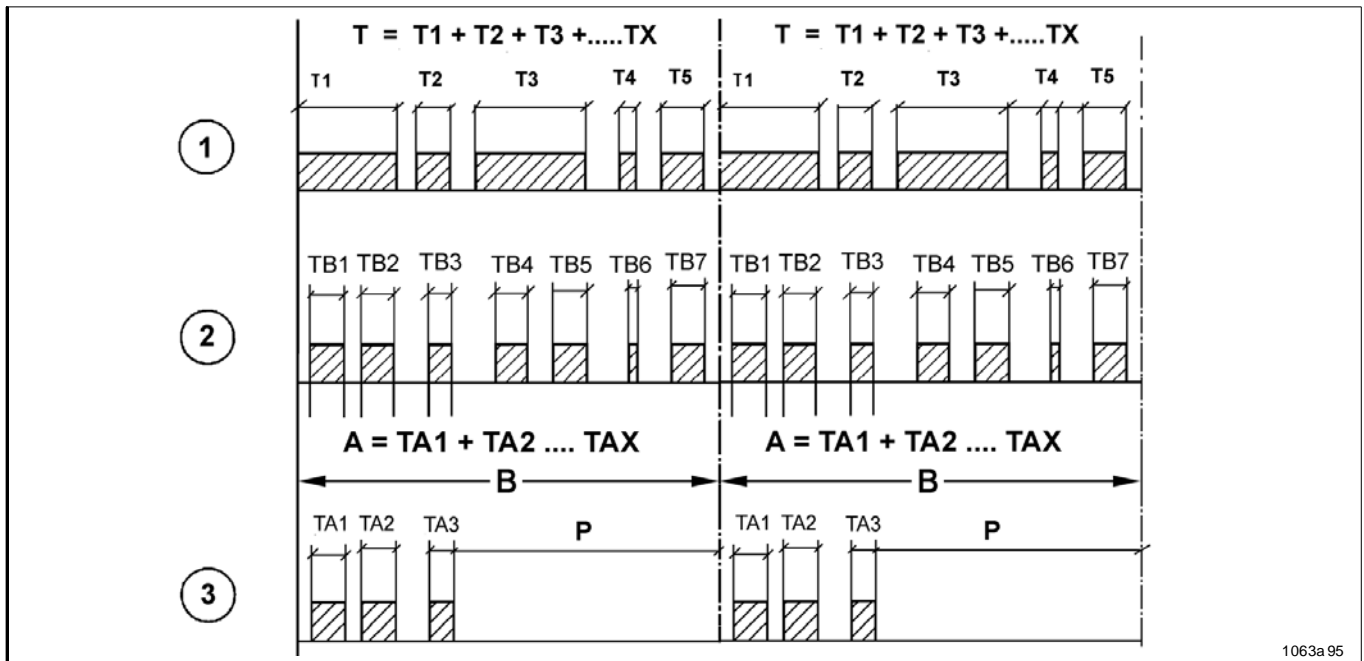

Fig. 7-4 Time lapse diagram
- The pause time is the time range in which the controller records driving movements by means of the motion sensor 1 (see Fig. 7-4).
- The lubricating time TA1 (see Fig. 7-4) starts with the first actuation of the brake (TB1 = TA1, etc.).